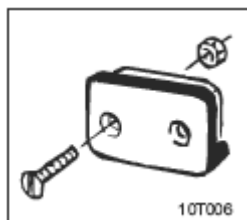

Fig. 9.4
- ☐ Attach computer bracket (Fig. 9.4) in tractor cab.